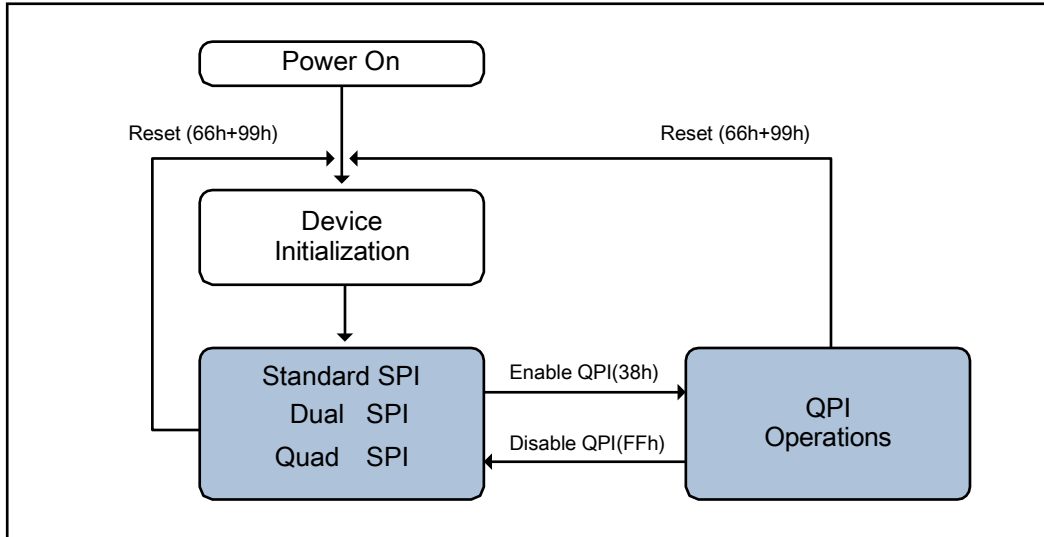

Figure 3. Operation Diagram of FM25M4AA
The FM25M4AA supports Quad Peripheral Interface (QPI) operation when the device is switched from Standard/ Dual/ Quad SPI mode to QPI mode using the “Enable QPI (38h)” instruction. To enable QPI mode, the non-volatile Quad Enable bit (QE) in Status Register-2 is required to be set. When using QPI instructions, the DI and DO pins become bidirectional IO0 and IO1, and the /WP and /HOLD pins become IO2 and IO3 respectively. See Figure 3 for the device operation modes.